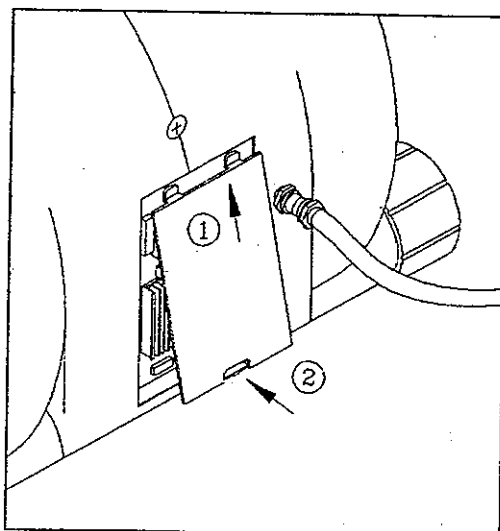

Fig.3
4. Replace the back cover (see Fig. 3&4).